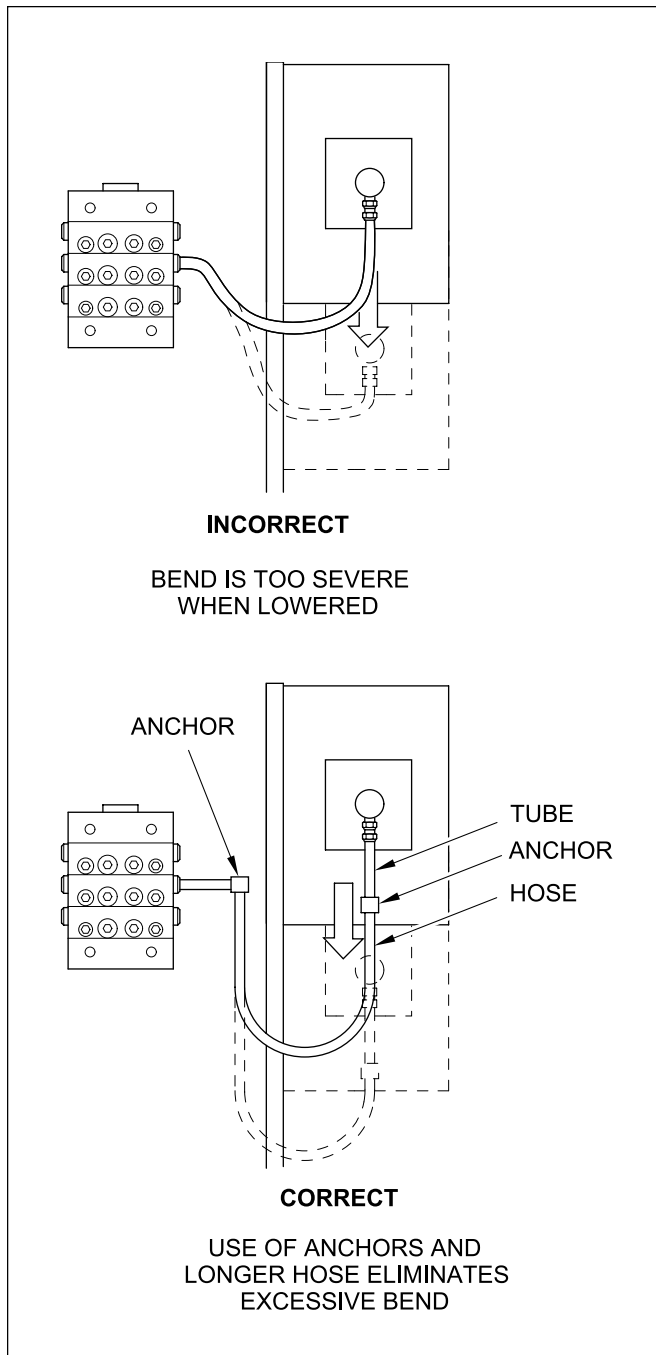

Figure 14
- When installing hose on a moveable component, cycle the component to both extremes of its range of travel. Then use anchor blocks or swivel fittings to ensure that the hose is not crushed or severely bent when the machine is operating (see Figure 14).